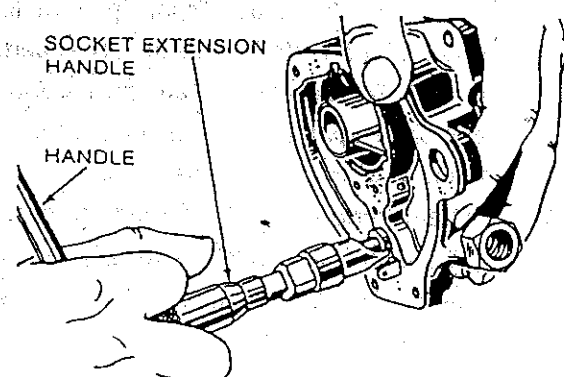

FIGURE 11
- 48) If the pump leather expanding spring (17) was removed, install it carefully under the pump leather.
- 49) Install fuel inlet fitting-strainer assembly (46), and gasket (47). Torque fitting (46) to 10-12 foot pounds.
- 50) Install float valve seat (27), and gasket (28) using tool No. M-104. See Figure 11. Torque to 10-12 foot pounds.